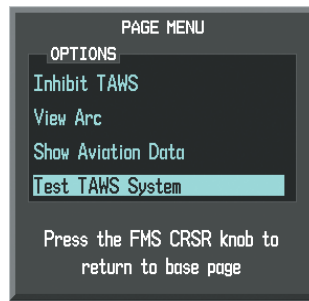

Figure 6-84 TAWS-B Page Menu
- 2) Press the **MENU** Key (Figure 6-84).